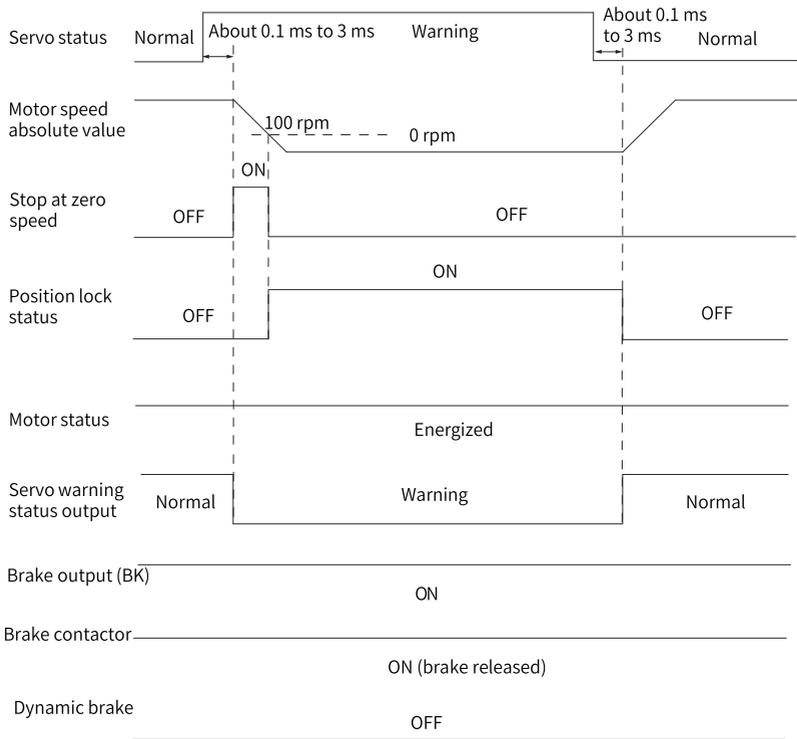

Figure 2-20 Sequence for warnings that cause stop
- When a No. 3 warning occurs on the servo drive, such as E900.0 (DI emergency braking), E950.0 (Positive limit switch warning), and E952.0 (Negative limit switch warning), the servo drive stops according to "Figure 2-20 Sequence for warnings that cause stop" on page 76.